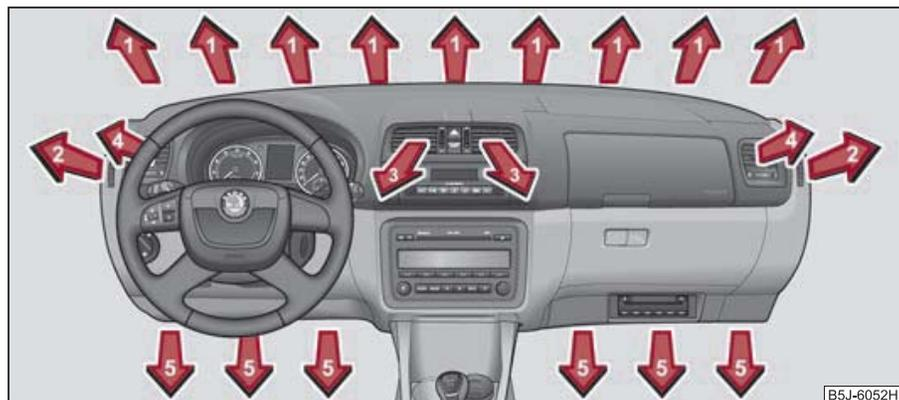

Fig. 90 Air outlet vents
- Air outlet vents **4** ⇒ page 78, fig. 90.
- We recommend that you leave the air outlet vents **3** ⇒ page 78, fig. 90 in the opened position. ■
- Air outlet vents 4 ⇒ page 78, fig. 90.
- We recommend that you leave the air outlet vents 3 ⇒ page 78, fig. 90 in the opened position. ■